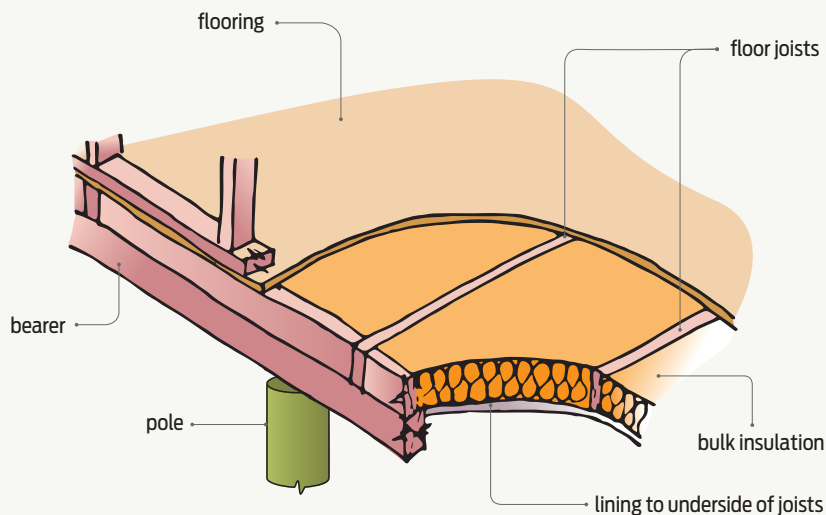

Figure 2 Suspended timber floor with bulk insulation and lining.
- installing plywood or fibre-cement sheets to the underside of the floor (see Figure 2)